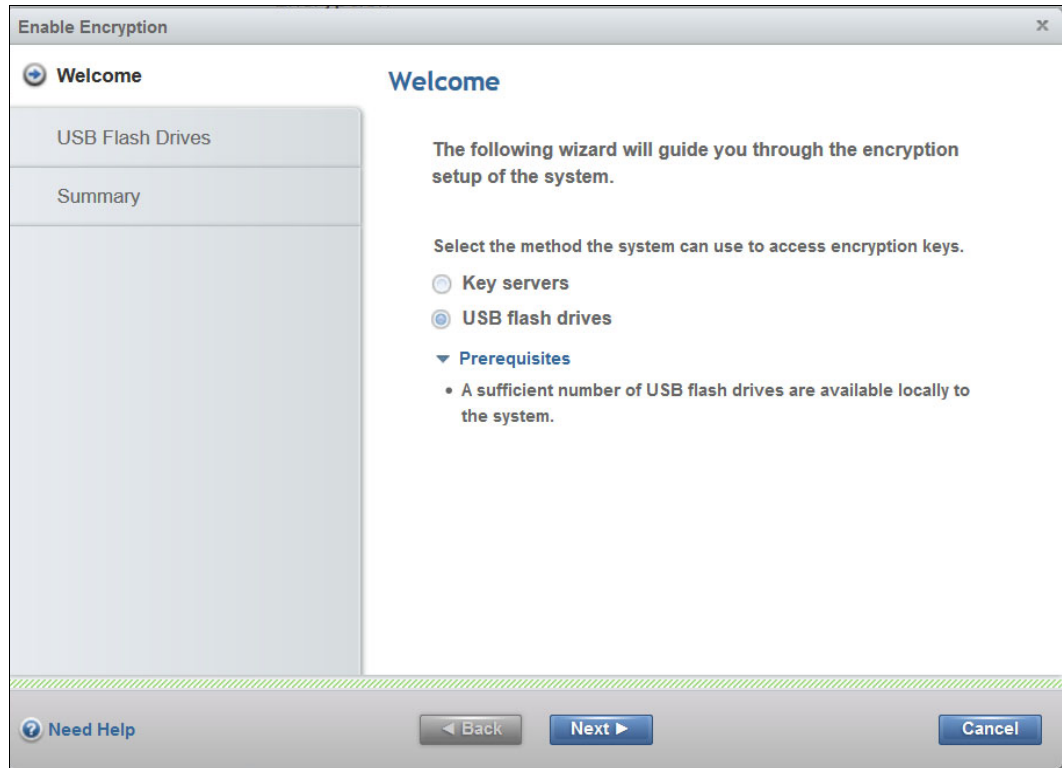

Figure 9-60 Encryption setup of FlashSystem V9000
3. The Enable Encryption wizard starts (Figure 9-60). Select the type of encryption you want to define and then go to one of these sections to continue with the steps: